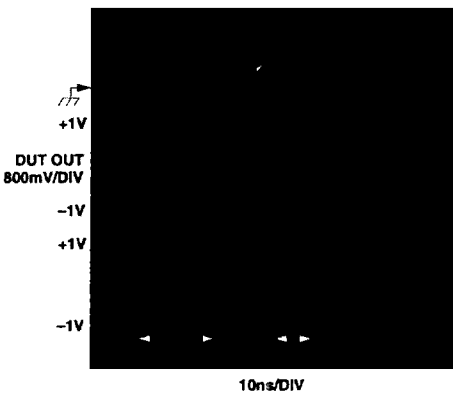

Figure 4. Enable and Disable Switching Characteristics
- 2ENABLE pin is driven with 0 V to +5 V pulse (with 3 ns edges). The state of the A0 and A1 pins determines which input is activated (refer to Table I). Set IN0 and IN2 = +1 V dc, IN1 and IN3 = -1 V dc, and measure transition time from 50% of ENABLE pulse (+2.5 V) to 90% of the total output voltage change. In Figure 4,  $\Delta t_{OFF}$  is the disable time.  $\Delta t_{ON}$  is the enable time.